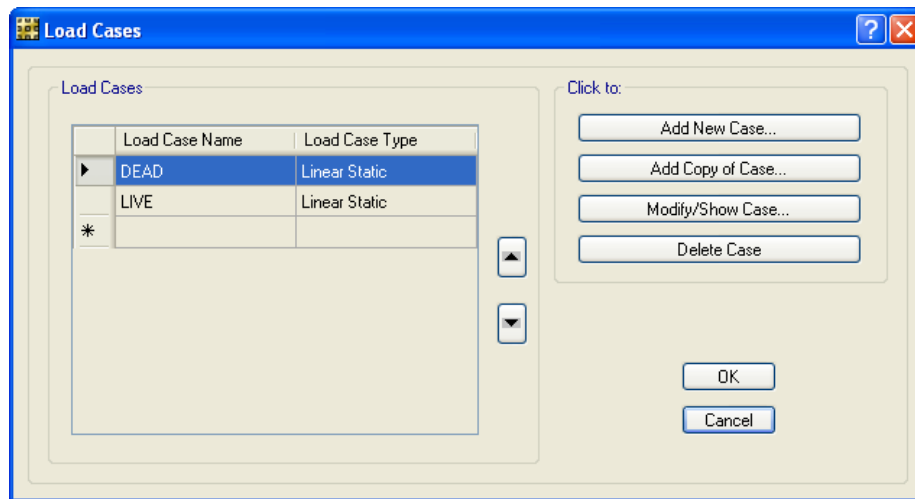

Figure 18 Load Cases form
- A. Click the **Define menu > Load Cases** command to access the Load Cases form shown in Figure 18.